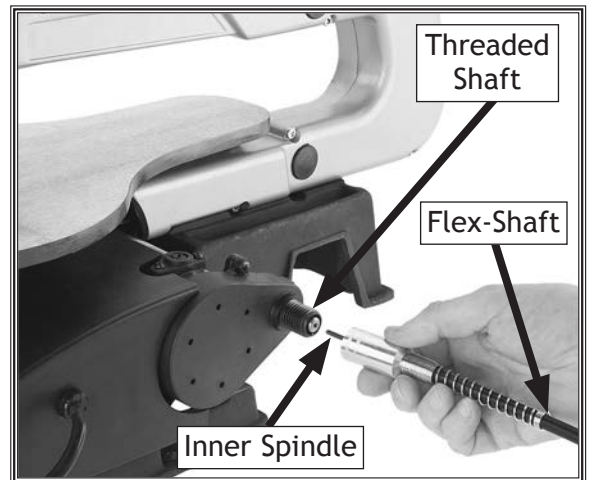

Figure 13. Installing flex-shaft.
8. Insert inner spindle of flex-shaft into threaded shaft, then thread on flex-shaft, as shown in Figure 13.